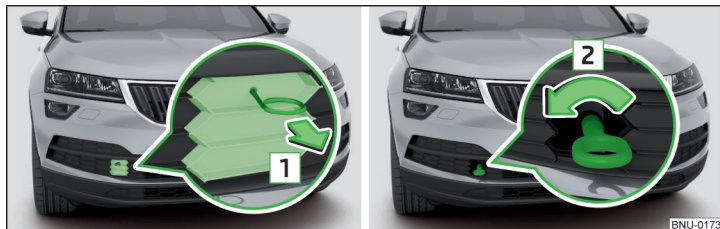

Fig. 328 Remove protective grille / install towing eye
- › To **remove**, insert the clamp for taking off the full wheel trims in the recess in the protective grille and remove the protective grille in the direction of arrow **1** » Fig. 328.
- › To **install**, screw in the towing eye by hand in the direction of arrow **2** » Fig. 328 until the stop » **!**